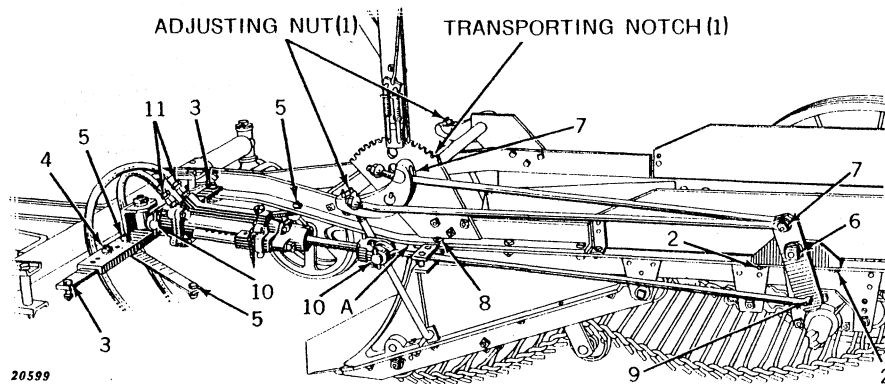

Figure 21
1. (Figure 21) Set the hand levers in the transporting notches of the sector, loosening the adjusting nuts if necessary to just keep the vine shields from contacting the frame at "A."
2. (Figure 21) Mount rocker arm support on the left-hand side of the right-hand digger frame.
3. (Figure 21) Attach extension bars to each digger beam, as indicated, using the longer bolts furnished.
4. (Figure 21) Bolt the cylinder support channel to the extension bars, centering the channel between the digger frames by means of the series of holes provided. This series of holes is provided to accommodate the various spacing of the two digger units.
5. (Figure 21) Bolt the angle brace from the frame to the cylinder support channel.
6. (Figure 21) Attach rocker arm to the rocker arm support with the short end of the arm **UP**.
7. (Figure 21) Insert the lift rods through the hole in the lift arm castings and fasten the lift rods to the rocker arm. Use the pipe spacer and washers furnished to attach the two lift rods to the rocker arm.
8. (Figure 21) Fasten pull rod support to the digger frame angle.
9. (Figure 21) Attach lower pull rod to the lower end of the rocker arm, with washer and cotter pin toward the digger frame.
10. (Figure 21) Connect Powr-Trol cylinder as shown. (See page 12.)
Raise the shovel to the transporting position, as outlined above, and **KEEP THE POWER CONTROL IN THIS POSITION.** Adjust the nuts so that the vine guards just miss the frame of the digger at "G," Figure 21, page 22.